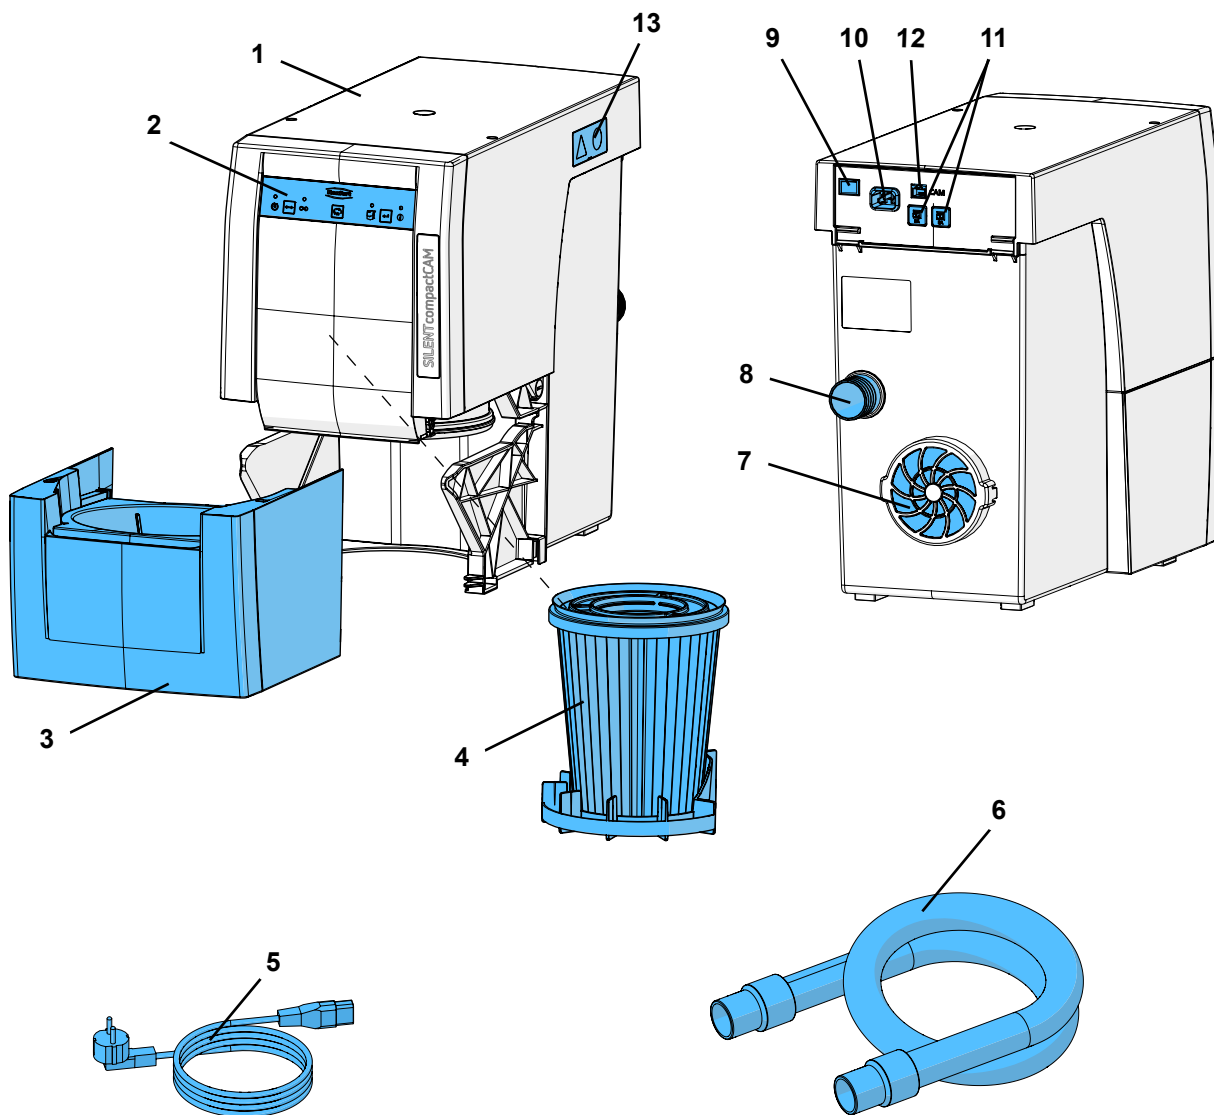

Fig. 1
- The exhaust vent (7, Fig. 1) is not blocked.
- An opening in the cupboard back side min. 250 x 120 mm, directly opposite the exhaust air outlet (7, Fig. 1).
- ⇒ Switch the device OFF at the On / Off switch (9).
- ⇒ Connect the power cable (5, Fig. 1) to the power supply (10).
- ⇒ Insert the suction tube (6, Fig. 1) into the suction port (8).